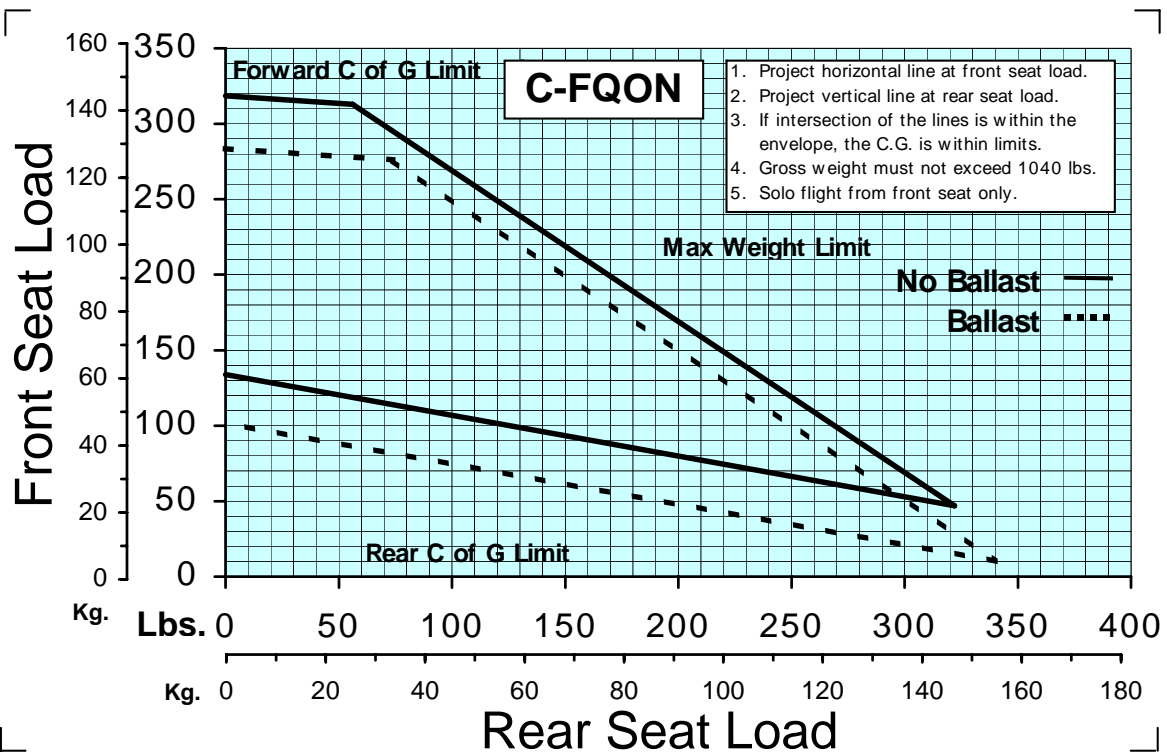

Figure 2-1-2 2-33 Loading Graph
16. **Loading Graph.** Each 2-33 shall have a Loading Graph (see representative example in Figure 2-1-2 below, stored in an easily visible area of either cockpit, which will allow the pilot to easily determine the correct loading, solo or dual, with or without ballast. Proper loading must be confirmed by the pilot before each flight.